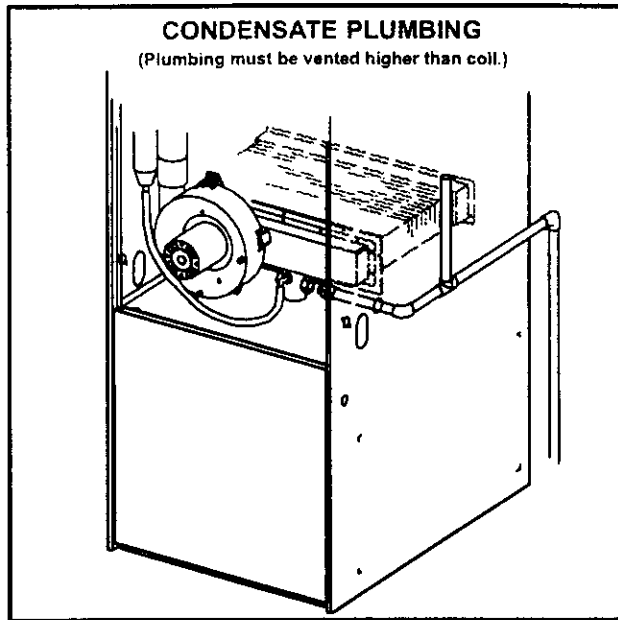

FIGURE 22
- 5 - Connect field-supplied plumbing to nipple and route to open drain. Plumbing should be vented to a point higher than the condensing coil. See figure 22.